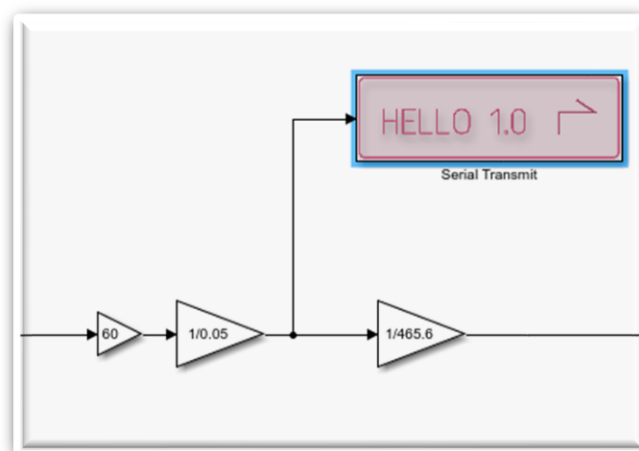

Figure 8: Block Diagram
- Bring the Hello 1.0 block to the location shown in **Figure 8**. This block shows the count value in a minute. Run the simulation without any changes and add your chart. In the first question of the experiment sheet, you found the count value that comes in 5 seconds. Estimate how many counts will be in 1 minute by making a transaction and compare it with your graphical output.